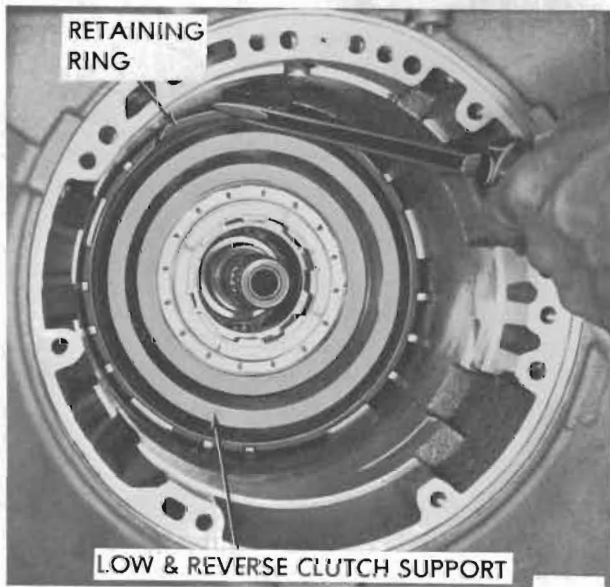

Figure 75-105
1. Remove low and reverse roller clutch support to case retaining ring. See Figure 75-105.